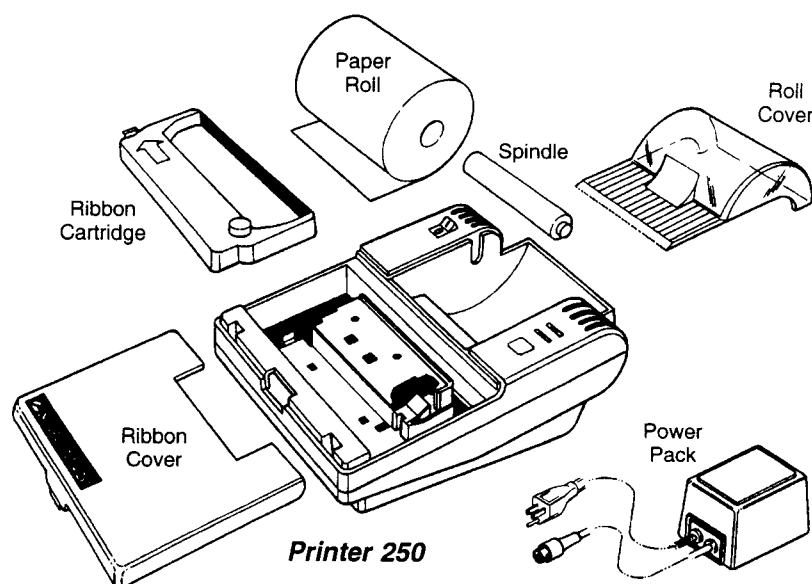

Figure 1-1. Printer 250 Components (exploded view)
1. With the shipping carton right side up, open the lid and remove the contents. As shown in Figure 1-1, you should have: